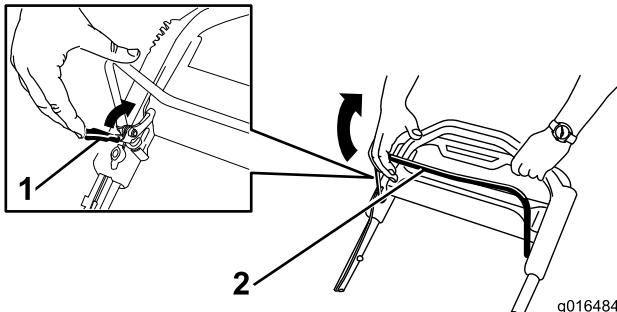

Figure 20
1. Pull the blade-control-bar lock back to the blade-control bar (Figure 20).
2. Slowly pull the blade-control bar back to the handle (Figure 20).